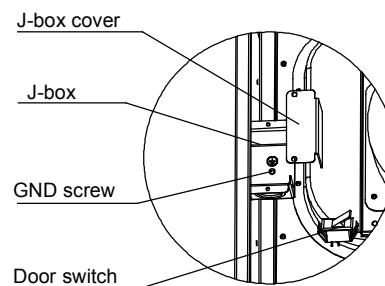

Fig. 25 - J-box
Field-Supplied Electrical Box on Furnace J-Box Bracket See Fig. 25.
Electrical Box on Furnace Casing Side. See Fig. 25 and Fig 27.
4. Remove and save two screws holding J-Box. (See Fig. 25.)
Make field 24V connections at the 24V terminal strip. (See Fig. 26.) Connect terminal Y/Y2 as shown in Fig. 25 for proper cooling operation. Use only AWG No. 18, color-coded, copper thermostat wire.